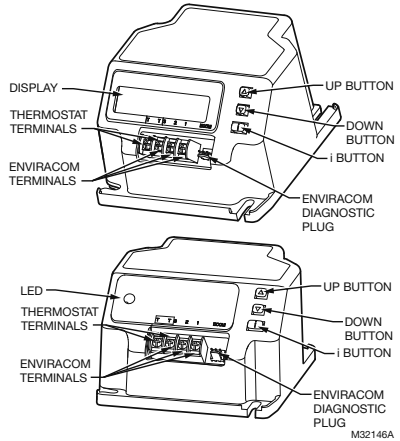

Fig. 2. R7284 terminals, connectors, LED, reset button and DIP switch locations.
- Before mounting the control, make line voltage connections as shown in Fig. 2 through 10. Splice lines with solderless connectors. Do not exceed load ratings shown on the device label.
- After mounting make low voltage connections to the screw terminals (see Fig. 2 through 10).